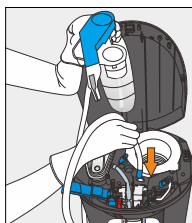

Figure 38
10. Insert water line of replacement SmartFlo™ Water Cartridge through the guide tube, and push through to bottle installation area (Figure 38).